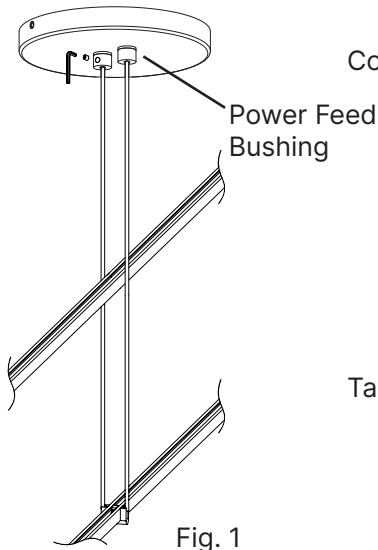

Fig. 1
1. Install **Double Cord Power Feed Hanger** to **Lower Power Bar** and connect to the **Power Feed** by inserting the exposed wires into the **Power Feed Bushings**. Secure by tightening the **Set Screws** with the included **Allen Key** (Fig. 1).
1. Install the **Mounting Bracket** to the ceiling with **Anchor** (if appropriate) and **Screw**, then screw the **Post** onto the Mounting Bracket (Fig. 1).